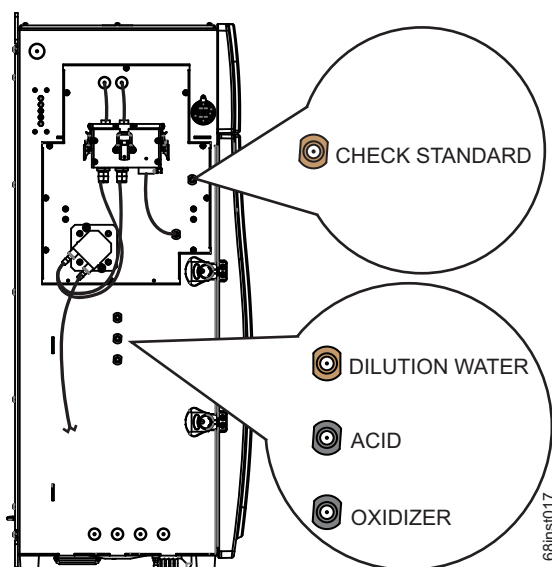

Figure 35: Connections (2-Stream, *Clean Water Sampler* shown)
Access one of the 1/8-in. OD tubes in the Analyzer's accessories. Attach the 1/4-28 PEEK fitting in the Check Standard port on the left side of the Analyzer. The fitting should be finger-tight. See Figure 35: Connections \(2-Stream, Clean Water Sampler shown\) on page 106.
1. Attach one end of the tubing to the top tan port labeled “**DILUTION WATER**” on the left side of the Analyzer, and tighten the PEEK nut finger-tight. See Figure 35 on page 106.
3. Attach one end of the tubing to the middle (black) port labeled “**ACID**”, and tighten the PEEK nut finger-tight. See Figure 35 on page 106.
2. Attach one end of the tubing to the bottom (black) port labeled “**OXIDIZER**” on the left side of the Analyzer and tighten the PEEK nut finger-tight. See Figure 35 on page 106.